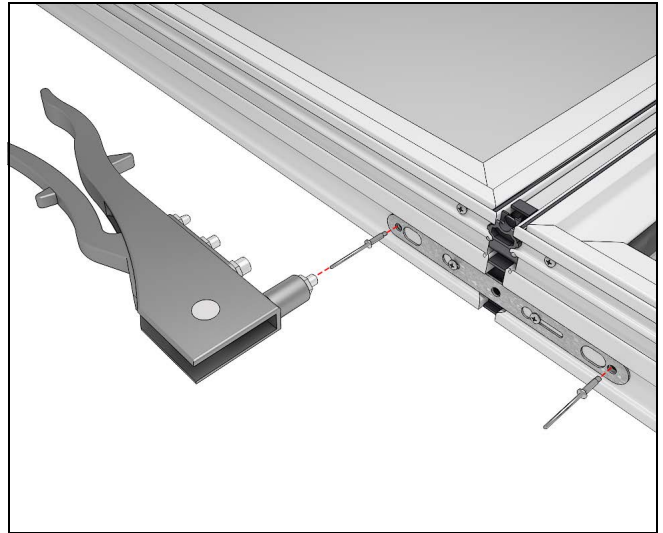

Figure 10
6. Fasten all rivets. See Figure 10. (Sill mull brackets on sliding window products do not require rivets.)